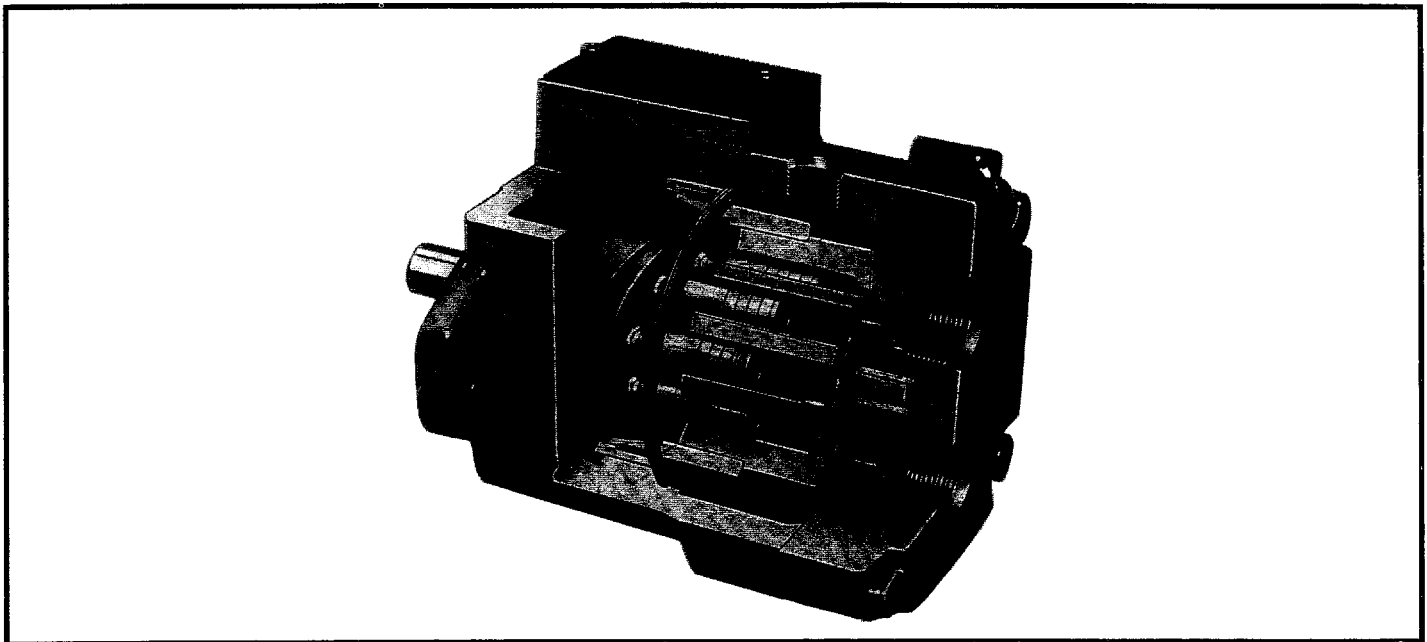

Figure 2. Cutaway of typical Oilgear "MFQA" & "MFW" Fixed Displacement Motor. (55292)
Fold out page 8 and refer to figures 2 and 8. A driveshaft (1) runs through the centerline of the motor housing (5), swashblock (11) and valve plate (22). Motor cylinder barrel (18) is splined to driveshaft. A bearing (3) supports the outboard end of the driveshaft. A bushing, integral with the valve plate, supports the inboard end. The motor cylinder barrel is carried in a journal type cylinder bearing (12). A roller bearing is used on "MFQA" and a hydrodynamic bearing is used on "MFW" Motors. The valve plate (22) has two crescent shaped ports. Piston/shoe assemblies (15) in the cylinder barrel are forced against a swashblock (11), by hydraulic pressure through "Port A" or "B", and the wedge shaped swashblock limits the piston stroke.